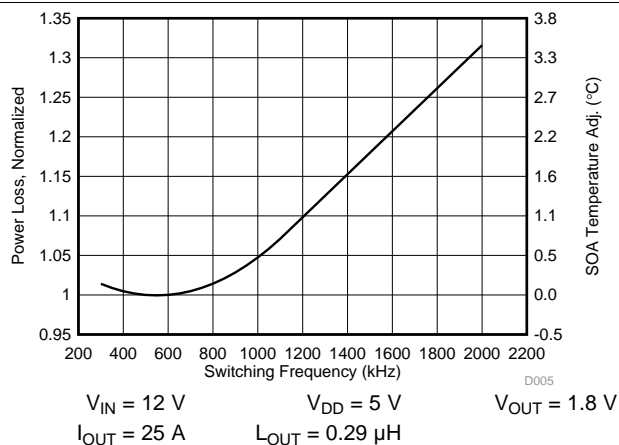

Figure 8. Normalized Power Loss vs Frequency
- Normalized Power Loss for switching frequency ≈ 1.01 (Figure 8)
- SOA adjustment for switching frequency $\approx 0.16^{\circ}\text{C}$ (Figure 8)